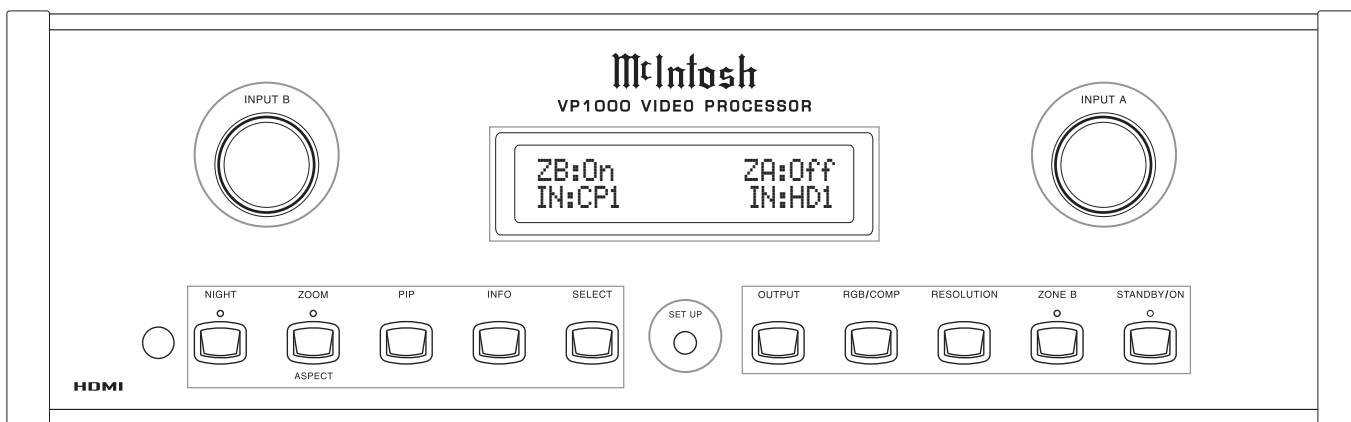

Figure 40
1. Press the ZONE B Push-button on the VP1000 Front Panel. Then press the STANDBY/ON Push-button on the Front Panel to switch Power On to Zone B. Refer to figure 40.
2. Press the ZONE B Push-button and then the VP1000 Front Panel SETUP Push-button. The Front Panel Information Display will indicate ZB OSD ACTIVE. The On-Screen Menu will appear on the Zone B TV/Monitor. Refer to figures 40, 41 and 42.
The Front Panel INPUT A Control (◀LEFT / ▶RIGHT) and INPUT B Control (▲UP or ▼DOWN) together with the SELECT Push-button may be used instead of the Remote Control. Refer to figure 40.